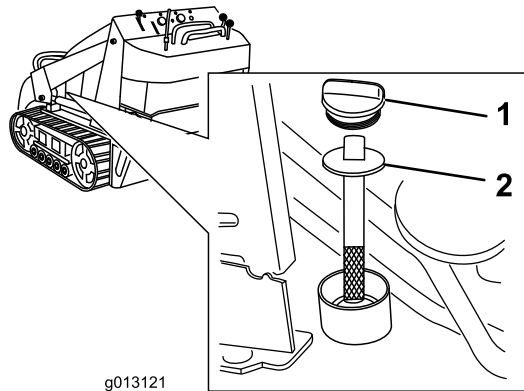

Figure 65
5. Remove the hydraulic-tank cap and dipstick (Figure 65).